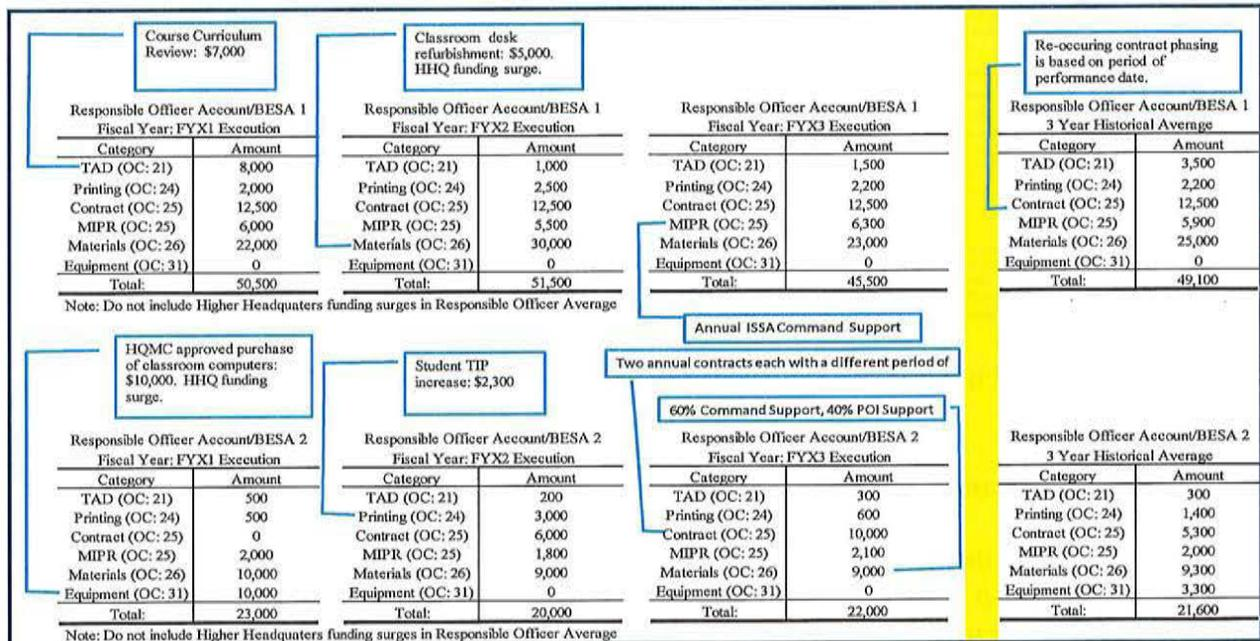

Figure 13 – School Average Execution
5. Calculate supported school average execution by object class using historical data. Use this figure as a basis for monthly phasing plan execution. Refer to figure 13.